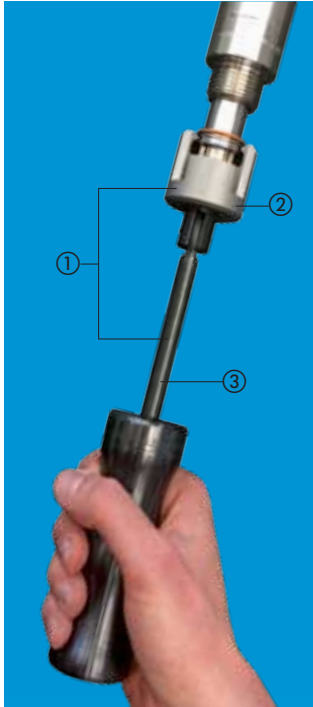

Fig. 1: Disassembly set
- Nozzle jets, half of them turned outwards in opposite directions. This directs the spray water to both sides (see Fig. 1).
So that the correct alignment of the nozzle mouthpiece (15° offset angle to the header's longitudinal axis – see Fig. 1) is guaranteed, the welding nipple on the spray header must be positioned so that its flat inner surfaces are parallel to the header's longitudinal axis. This is best achieved with the alignment aid supplied as an accessory (Fig. 2, Order